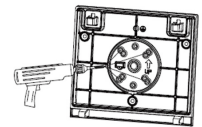

Fig. 1.3
4. Use an electric drill to create the necessary mounting holes on the luminaire's mounting plate (Fig. 1.3).